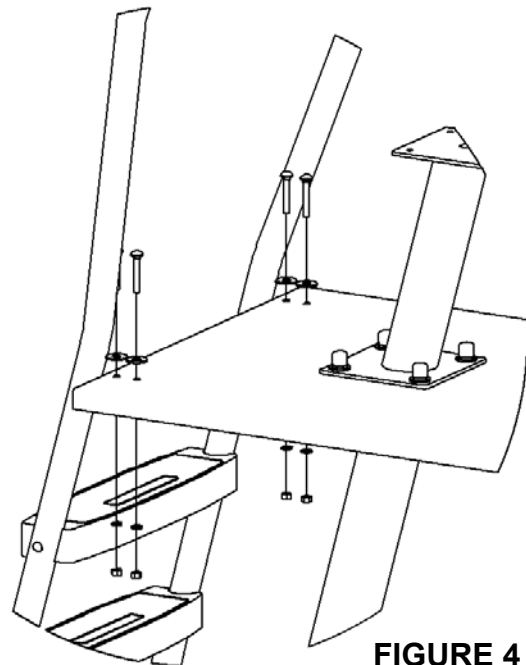

FIGURE 4
4. Attach both side rails to the footboard using (2 ea.) 3/8"x2-1/2" carriage bolt, 1/2" flat washer, 3/8" lock washer, and 3/8" hex nut. **FIGURE 4**